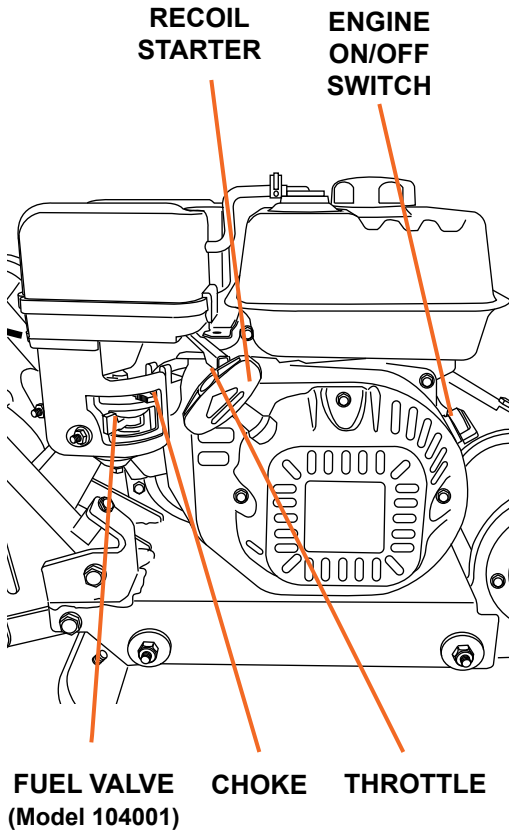

Figure 6
1. Turn the engine ON/OFF switch to ON (see Figure 6).